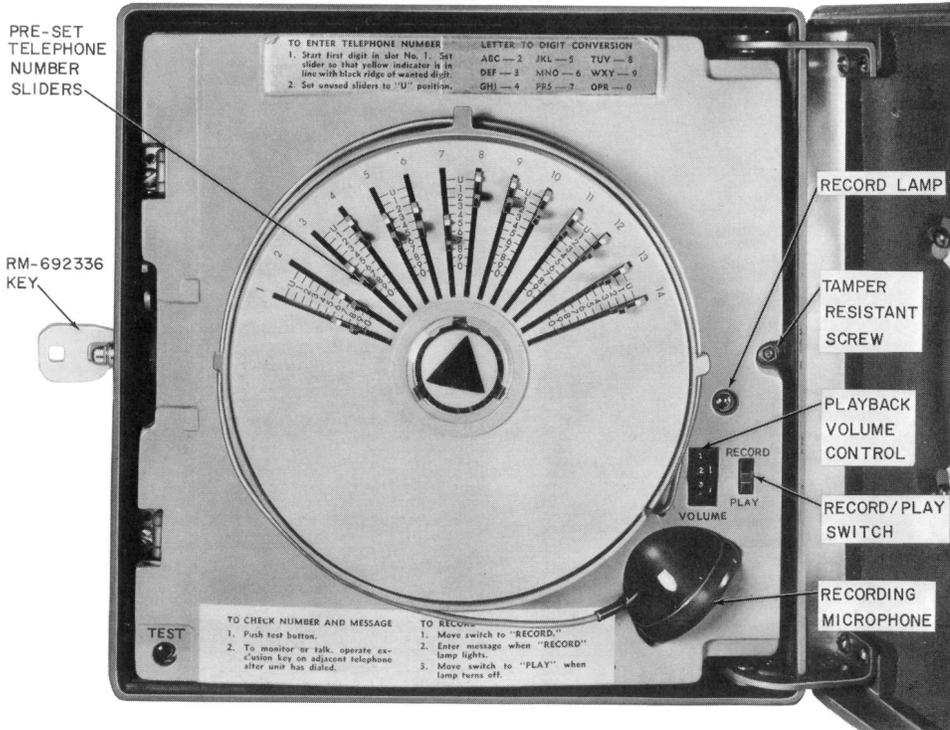
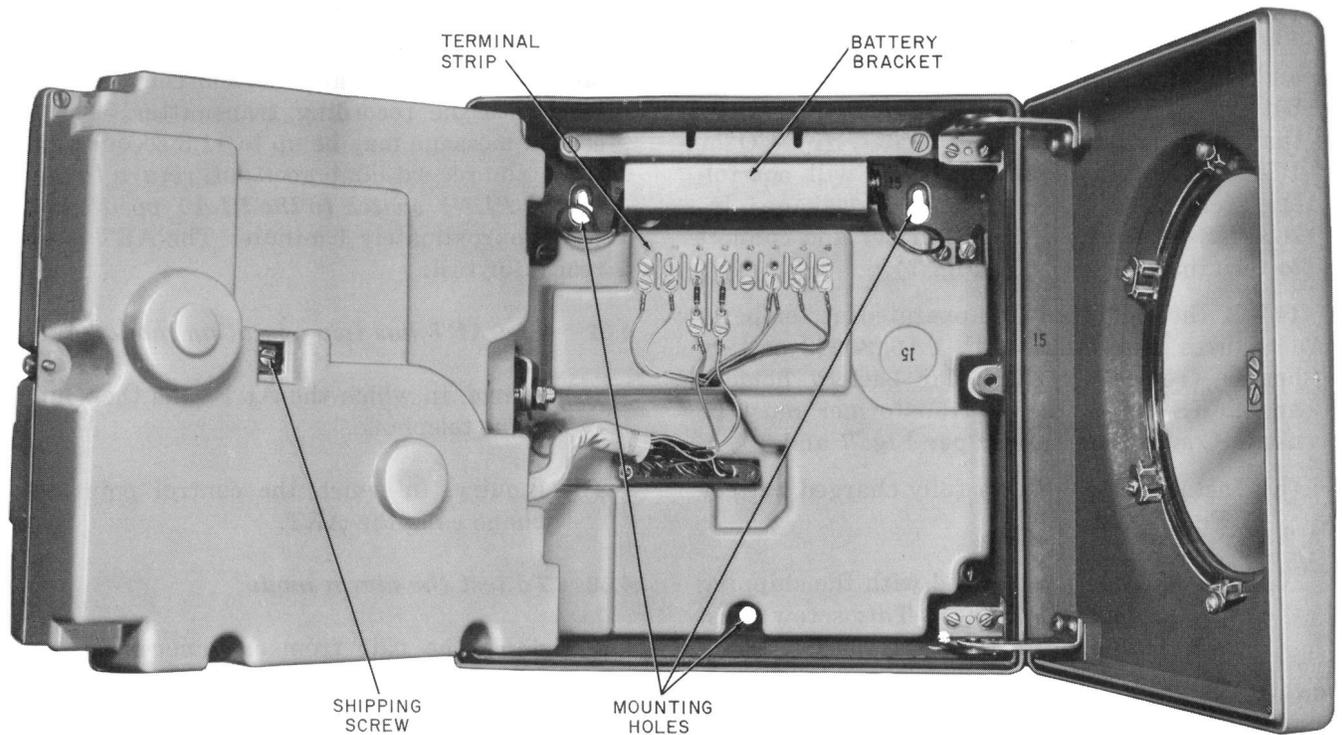

Fig. 2 — ART, Cover Open
Fig. 5 — ART, Interior View
3.03 A terminal strip is provided for the termination of all wiring on the inside rear panel of the unit (Fig. 5). Access to the terminal strip is gained by first opening the hinged front cover of the set, using the key provided; loosening the tamper resistant screw (Fig. 2) using a KS-19192, List 1 tool, and swinging the hinged number coding assembly aside.
Note: The ART is shipped with the shipping screw in place per Fig. 5. This screw must remain seated until after the battery is installed and connected. This screw makes an electrical contact that assures that any switches that may have been jarred from the "home" position during shipment will return to the "home" position. After the battery has been connected for 1-1/2 minutes, back the shipping screw out 1-1/2 turns. *When ART is removed from service, this screw must be retightened.*
- (b) Momentarily operate the TEST button in the lower left corner of ART (Fig. 2). ART will dial the number of the control point telephone but the dial pulses will not reach the line because of the off-hook condition of the associated telephone set.
- (a) Open the ART and remove plastic shroud covering the mechanism. (See Fig. 5.)